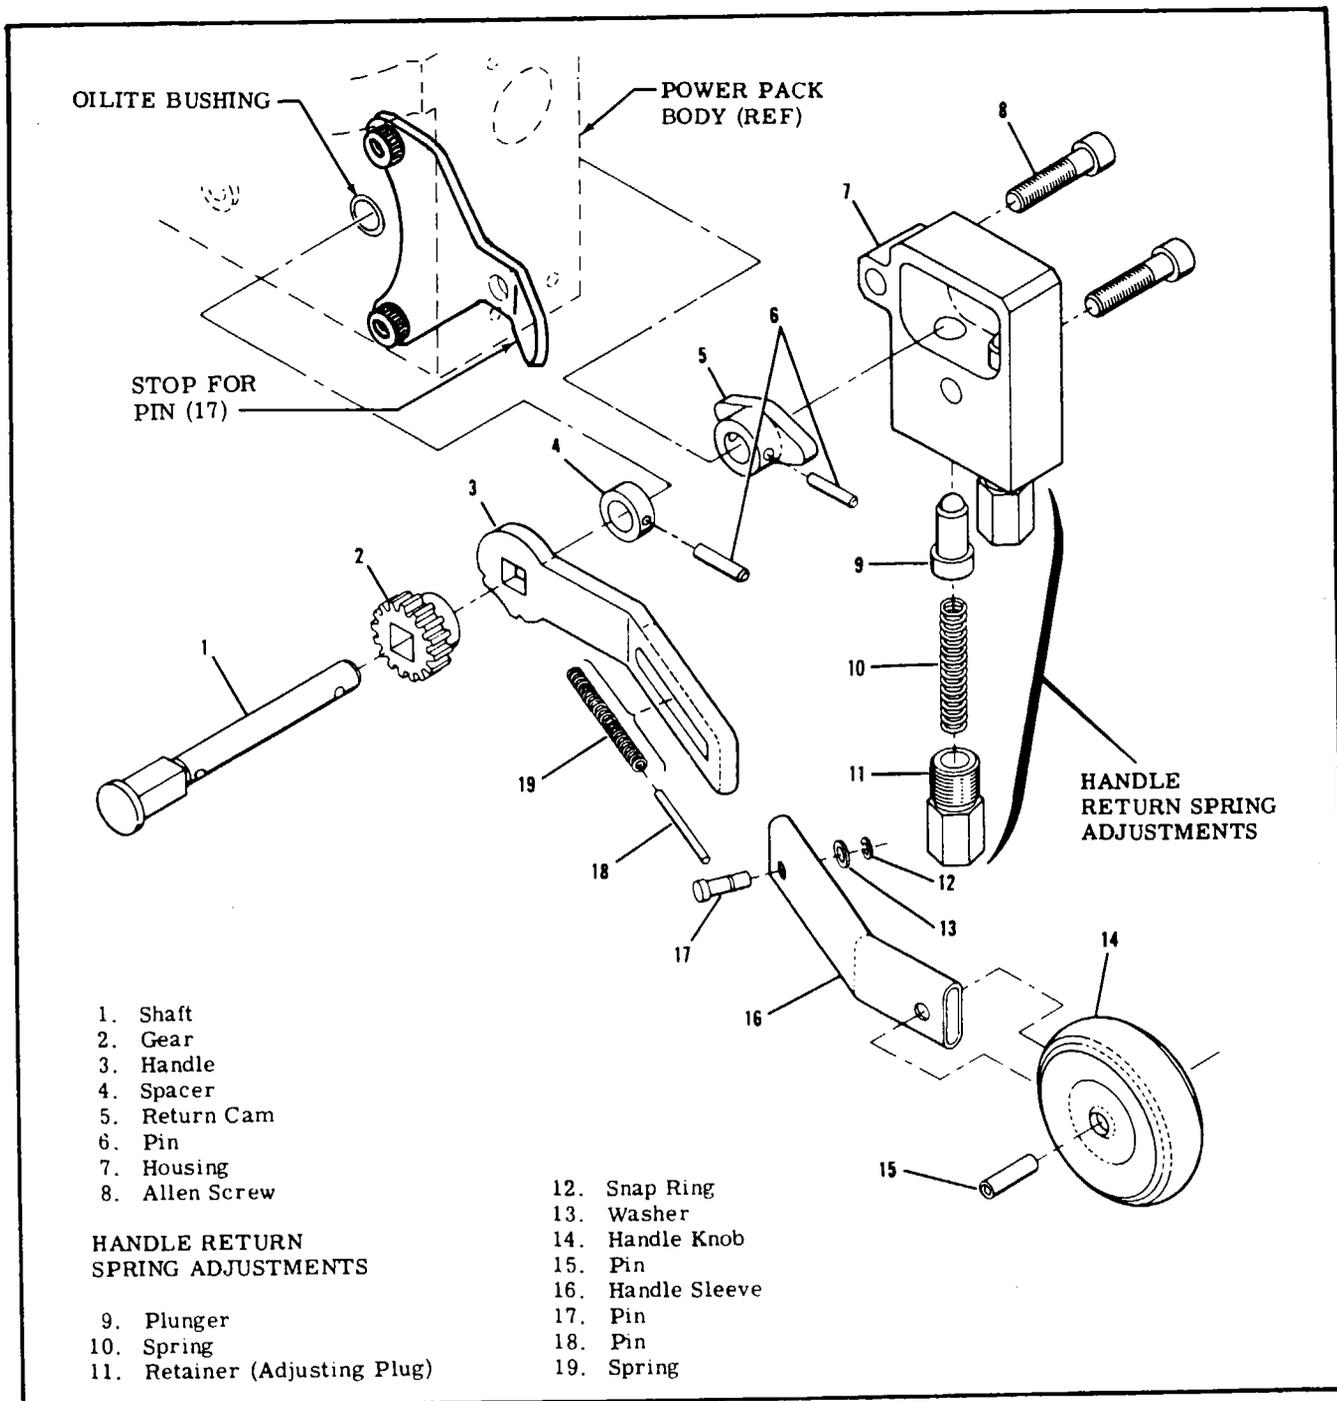

Figure 5-31. Landing Gear Handle and Handle-Release Mechanism
5-160. LANDING GEAR HANDLE AND HANDLE RELEASE MECHANISM. (Refer to figure 5-31.)
- e. Landing gear handle may be disassembled as illustrated in figure 5-31.